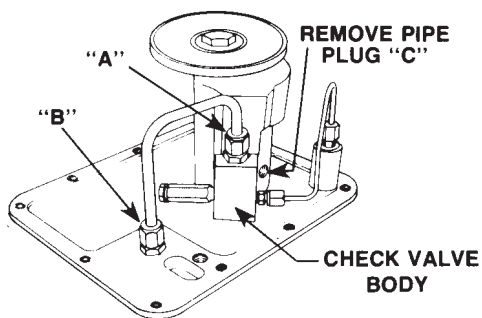

FIGURE 1
4. Disconnect fittings "A" and "B" and remove the 3/8" tube assembly and adapter. See Figure 1.
7. Remove the pipe plug (Figure 1, Item "C") from the pump body.